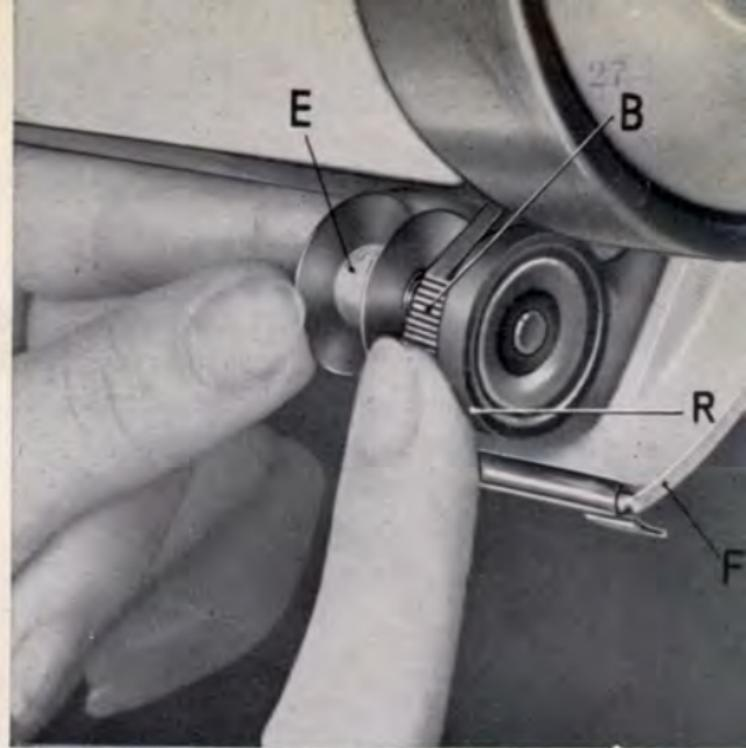

Fig. 26
- f) With the forefinger of the right hand press down lever « B » (Fig. 26) (and consequently also the cover « F ») and keep it down.
- g) Take bobbin with thumb and forefinger of the left hand, place it on the spindle « E » (Fig. 26) and push it slightly toward the right until it reaches its position on the spindle.